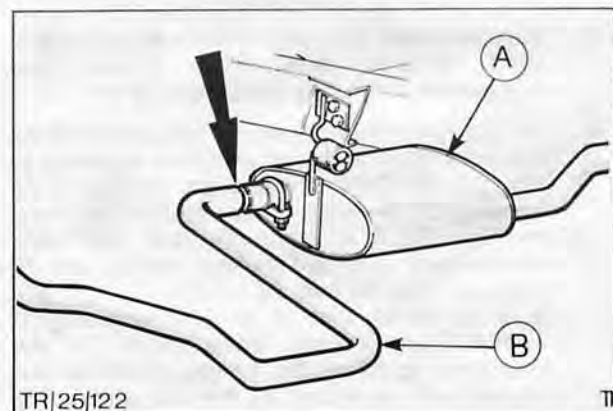

Fig. 25. Join between front muffler section and front down pipe
3. Remove 'U' bolt clamp from down pipe/front muffler joint. Separate down pipe from front muffler, Fig. 25. If down pipe cannot be separated refit 'U' bolt clamp and cut pipe in front of muffler leaving sufficient old pipe to use connector sleeve to join new pipe to muffler section.